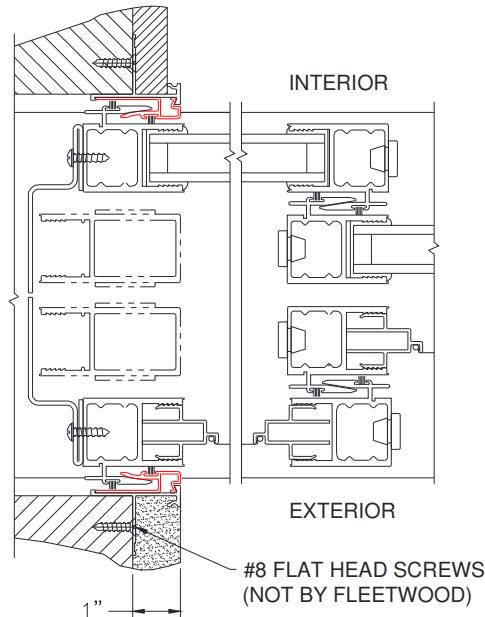

Figure 14:
3. Attach pocket interlocker(s) with #8 flat head screws, not by Series. Install screws 6" from top and bottom with additional screws on 18" centers (Figure 14).